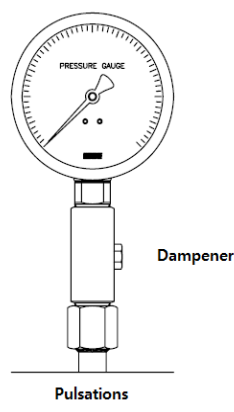

Figure 3
- 5) Dampener or Gauge protector is recommended where pulsation or impulsive pressure is present (Figure 3, 4)